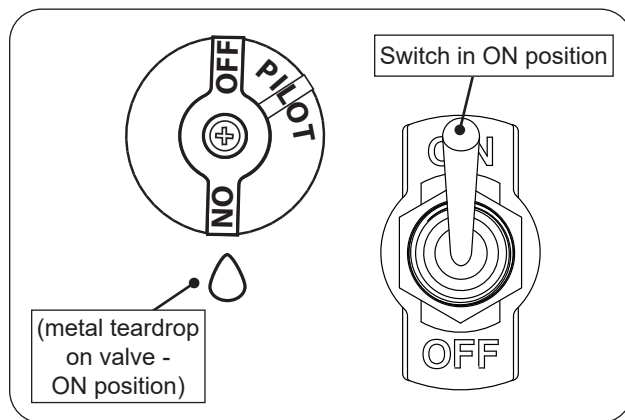

Fig. 24-1 Manual lighting
1. Ensure the pilot is burning. Turn the control knob counterclockwise ↺ to **ON** (see Fig. 24-1).
2. Flip the toggle switch to **ON** to ignite the burner (see Fig. 24-1).